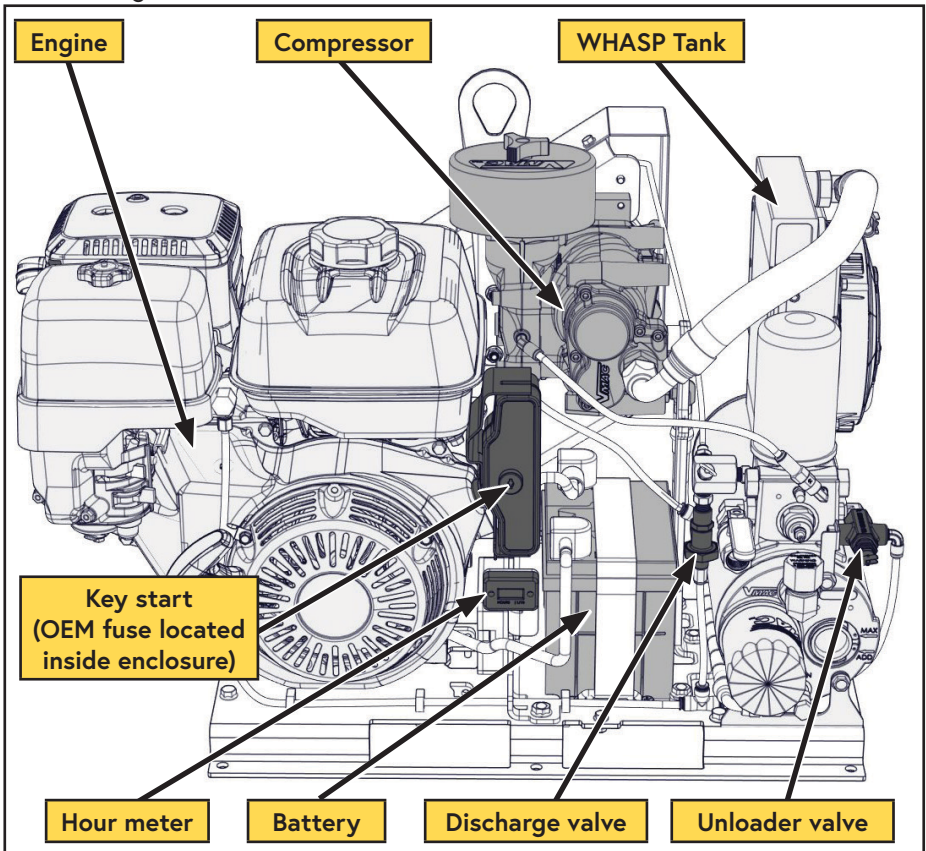

Figure 6 — System overview (shroud removed for clarity)
System Components (Front) (Figure 6)
- The unloader valve should be manually activated to aid start up; this will reduce the load on the compressor, resulting in less load on the engine during warm up (Figure 6 on page 21).